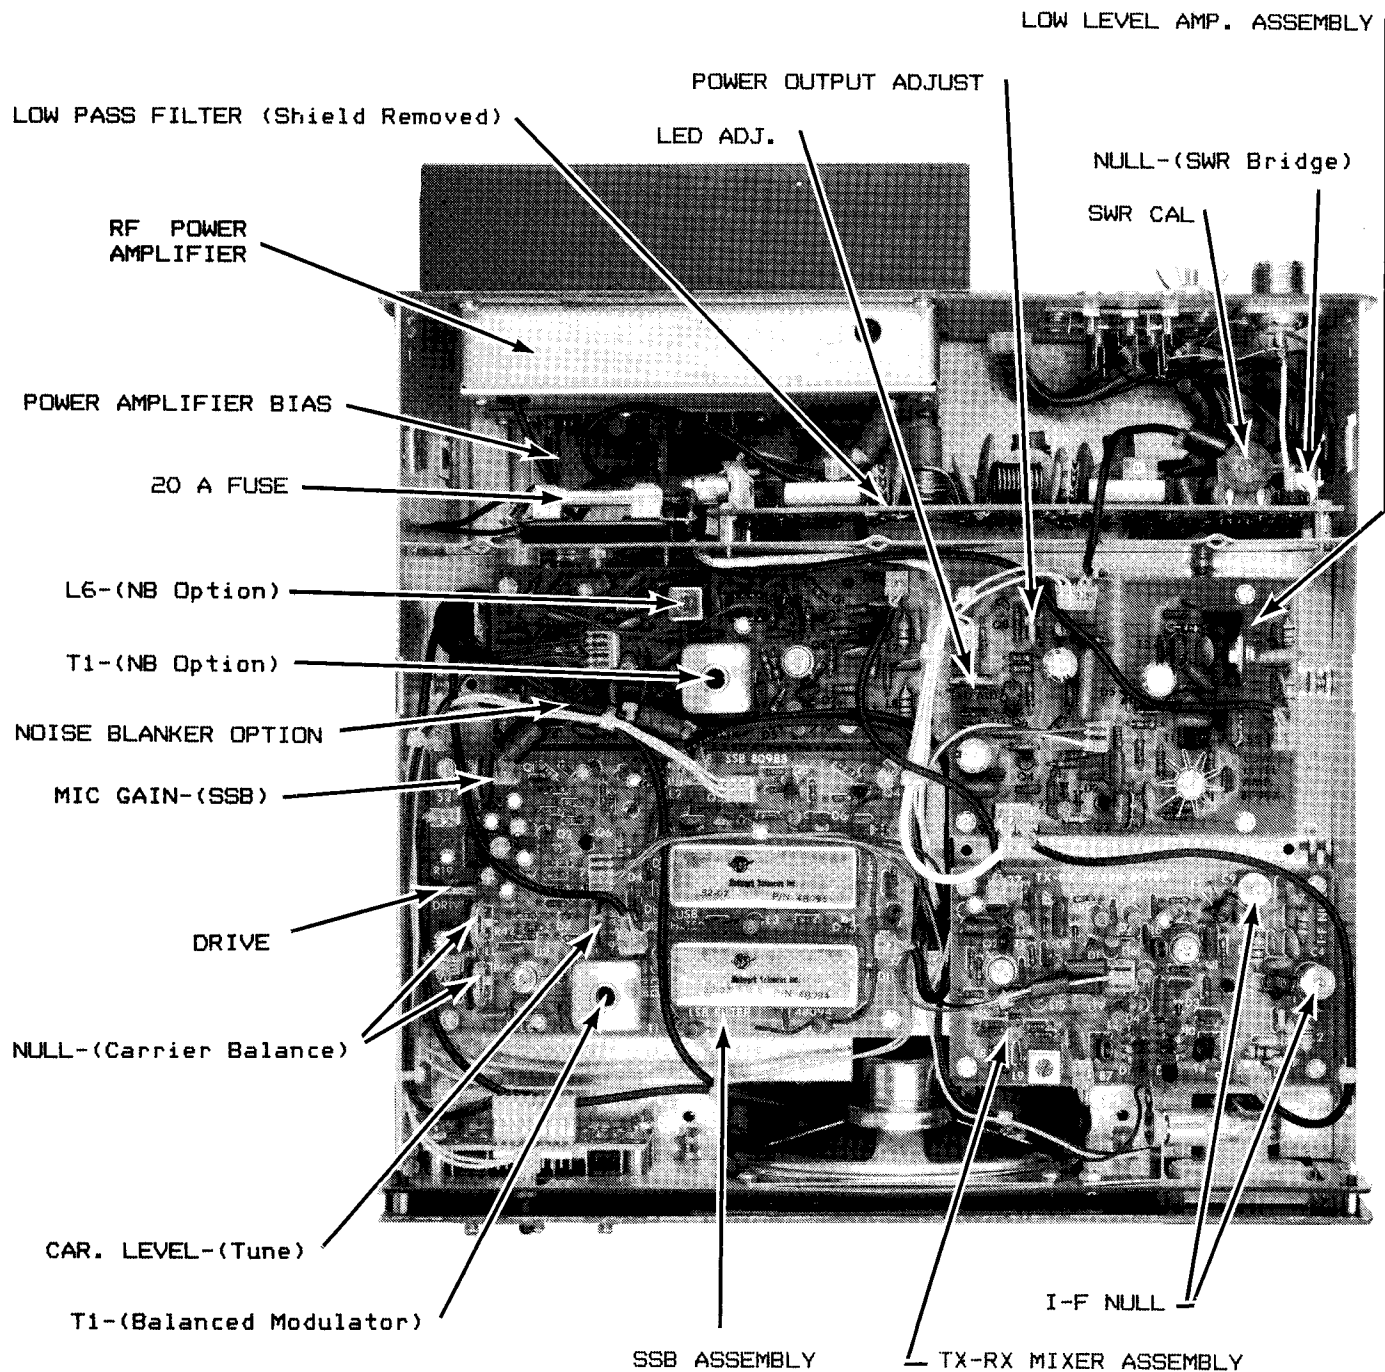

Figure 9 - Inside Top View
2. The blanker assembly will be located immediately behind the SSB assembly, in the upper left area. (See Figure 9, Inside Top View)
on the PC assemblies. Nine of these are set while in the receiving mode and 17 while transmitting. Figures 9 and 10 are inside views of the top and bottom of the main chassis and all components that require adjustments are shown clearly. They are also denoted in the printing on the tops of the assemblies.